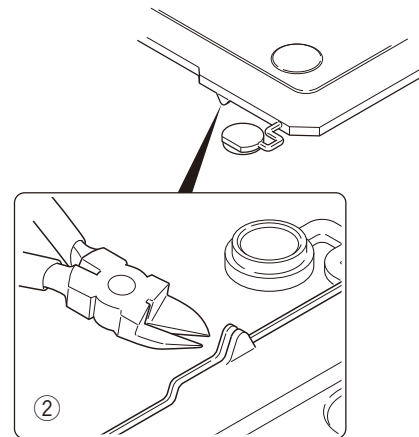

Fig. 9-3
Note: If the GPS receiver is installed, cut the base of the convex tab of the top packing with a pair of nippers, or similar tool. (Fig. 9-3 ②)